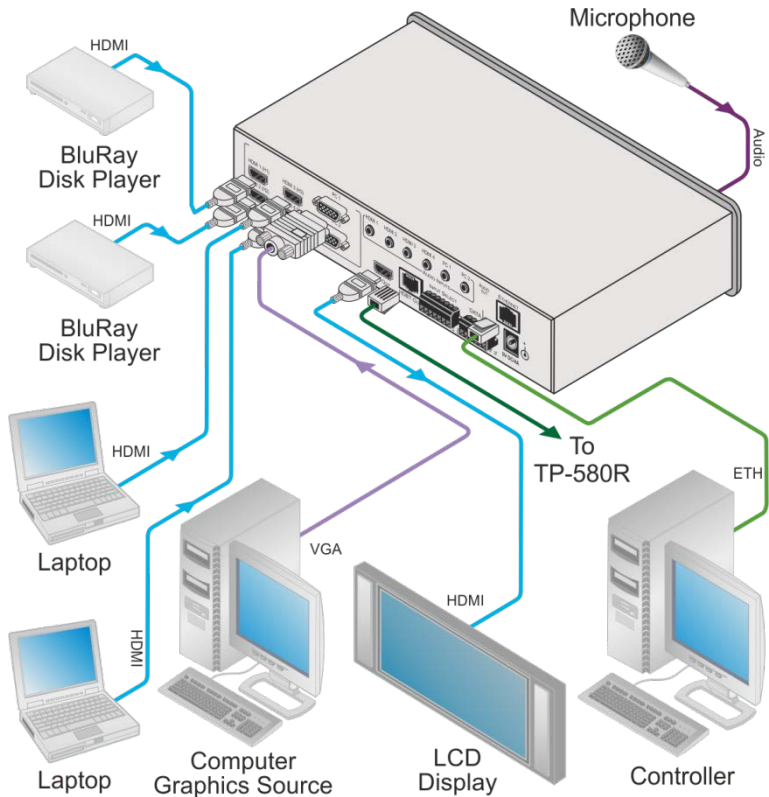

Figure 3: Connecting the VP-440 Presentation Switcher / Scaler
To connect the **VP-440**, as illustrated in the example in Figure 3, do the following:
3. Connect the audio input signals to the AUDIO INPUT 3.5mm mini jack connectors, as required (not shown in Figure 3).
6. Connect the AUDIO OUT 3.5mm mini jack connector to an unbalanced stereo audio acceptor (not shown in Figure 3).
8. Connect the power cord (not shown in Figure 3).